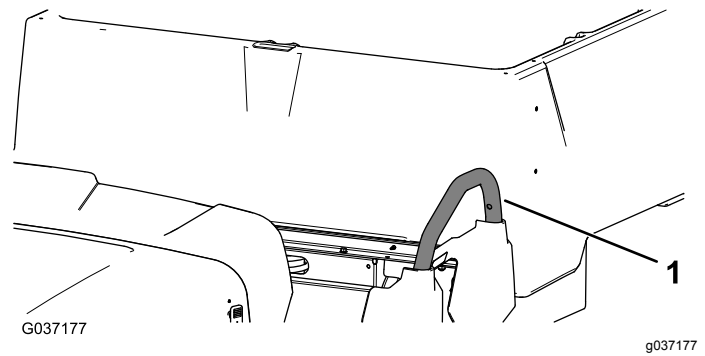

Figure 9
3. Remove the 3 screws and 3 nuts securing the left handhold, and remove it (Figure 9).
- Install the previously removed left handhold using the 3 screws and 3 nuts (Figure 9).